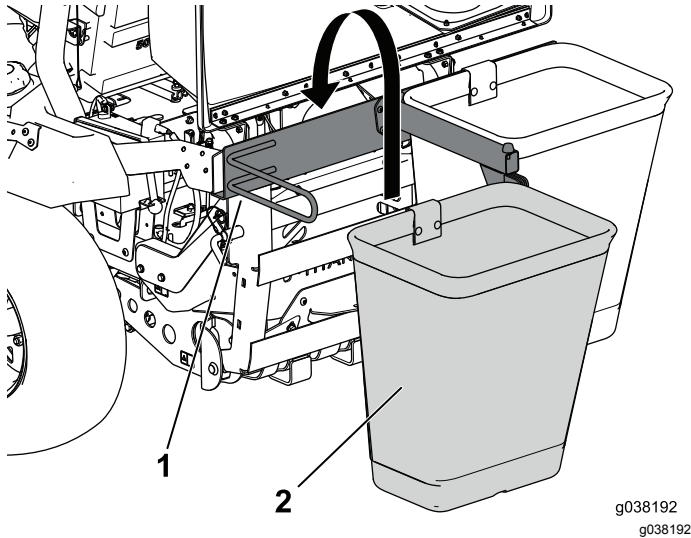

Figure 19
1. Hook the bag to the bagger frame (Figure 19).